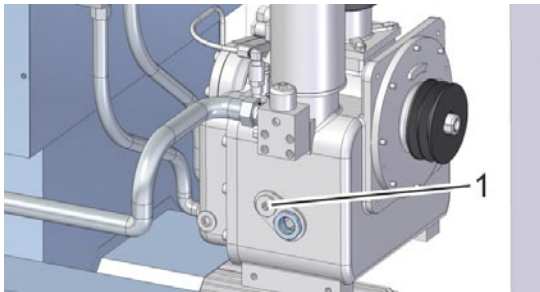

Fig. 35: Filler nozzle
4. Unfasten the filler nozzle (Fig. 35/1), remove it and make sure that the gasket is not misplaced.